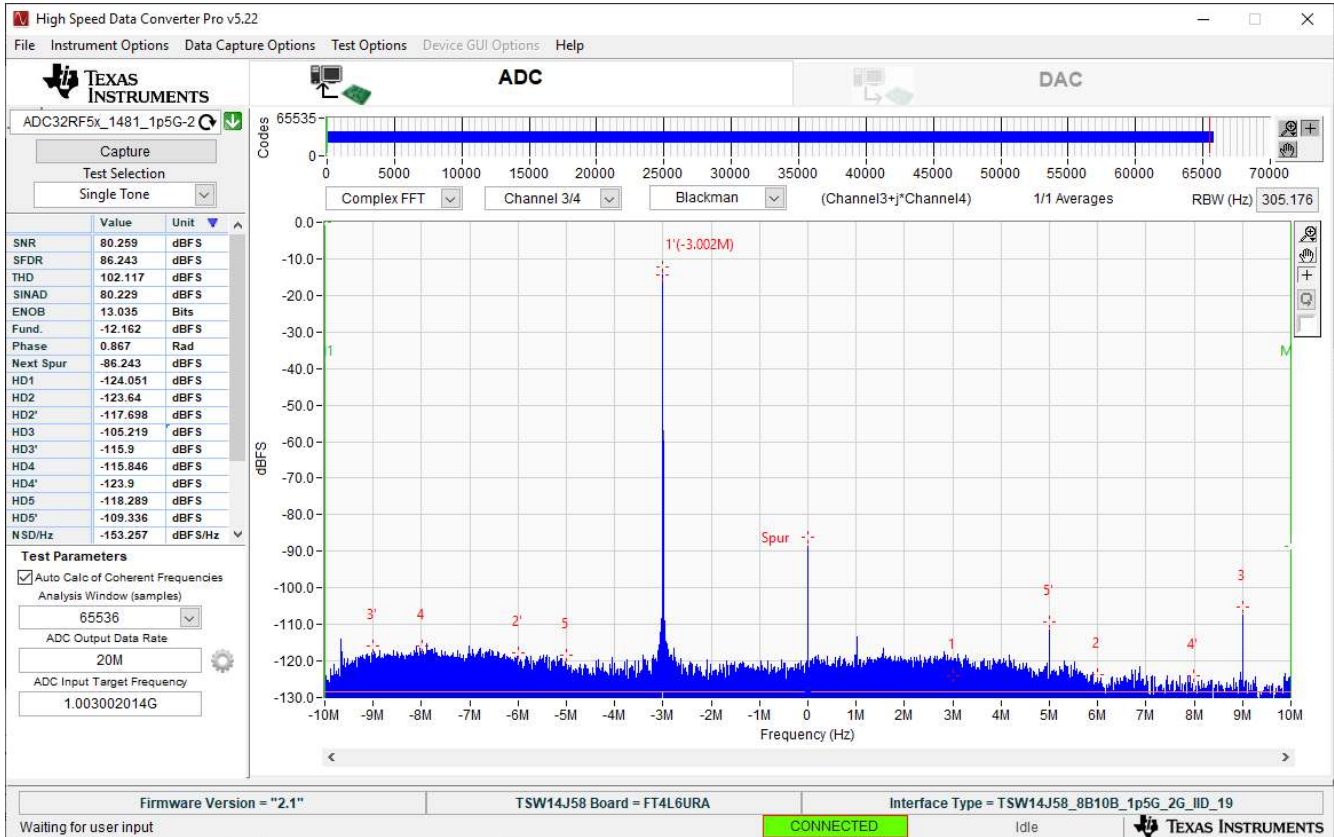

Figure 4-8. 1003.002 MHz input, 128x complex decimation, 2x averaging, dither amplitude 3
17. Press the **Capture** button. You should now see something similar to Figure 4-8.